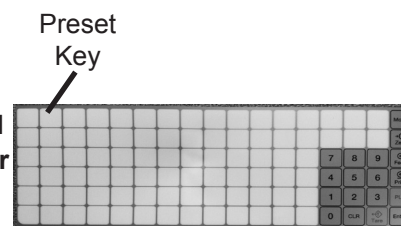

Figure 12-2
**NOTE:** Make sure to mark the selected preset key with the PLU name on the Operating Keysheet. See Figure 12-2.